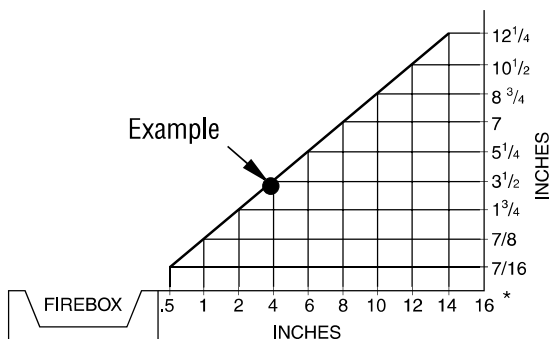

Figure 4 - Minimum Clearance for Combustible to Wall
- where curtains, furniture, clothing or other flammable objects are less than 36" from front, 42" from top of appliance; for side clearances see *Figure 4, Page 10*
A. Clearances from the side of the fireplace cabinet to any combustible material and wall should follow diagram in *Figure 4, Page 10*.
Example: The face of a mantel, bookshelf, etc. is made of combustible material and protrudes 3-1/2" from the wall. This combustible material must be 4" from the side of the fireplace cabinet (see *Figure 4, Page 10*).